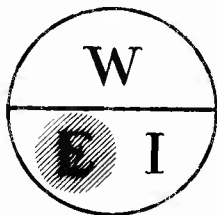

Figure 8
Suppose we desire to know the relation of voltage to current and watts. We cover (E) which designates voltage and find that (E) is equal to  $W \div I$ , which is exactly what the formula  $(E = \frac{W}{I})$  tells us. This procedure is shown in Figure 8.